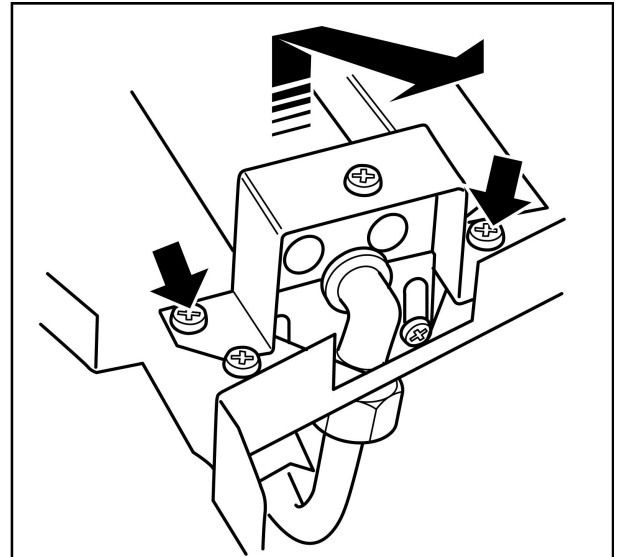

Figure 24. Removal of burner
16.5 To replace the burner. (See figure 24).
3. Remove the two screws from the burner clamping plate (See figure 24)